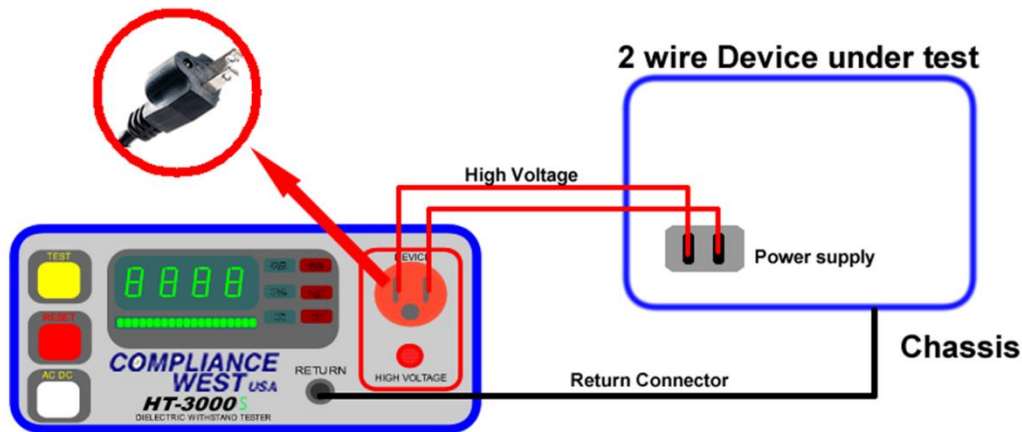

Figure 8. Testing a Two Wire Power Cord Device
4. Plug the power supply cord of the device being tested into the **Device** receptacle on the front panel of the HT-P V2 unit. See Figure8 for detailed connections.